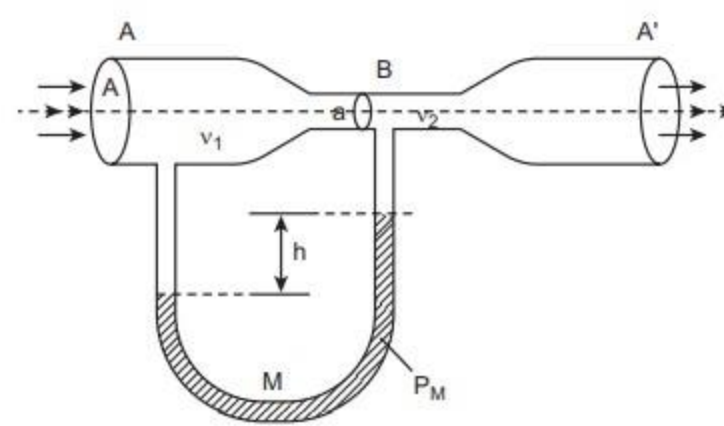

Figure 7.37 A schematic diagram of venturimeter
- A manometer in the form of U-tube is also attached between the wide and narrow tubes as shown in Figure 7.37. The manometer contains a liquid of density ' ρ_m '.